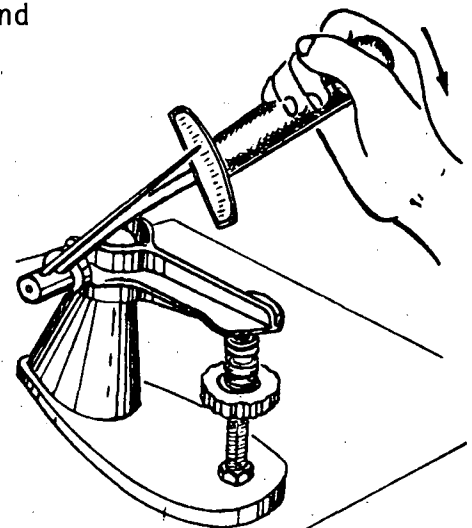

Fig. 2
- c) Check the tension in the springs (fig. 2) against the manufacturer's specifications.